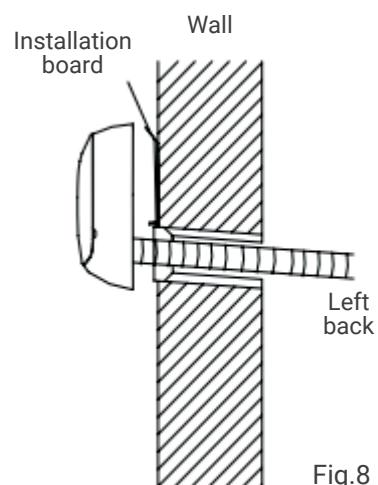

Fig.8
- Mount the indoor unit on the two hooks at the upper part of installation board. (Refer to Fig.8)